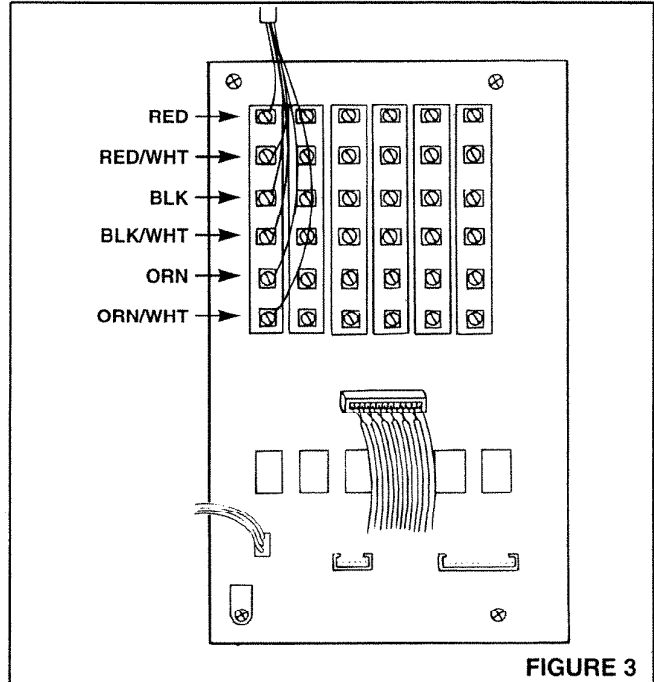

FIGURE 3
2. Refer to Figure 3. Connect the IW-6 cable from each remote to the appropriate set of terminal screws at the expansion module terminal board. When connecting the cable to the terminal board, be sure to observe the matching of all color codes.